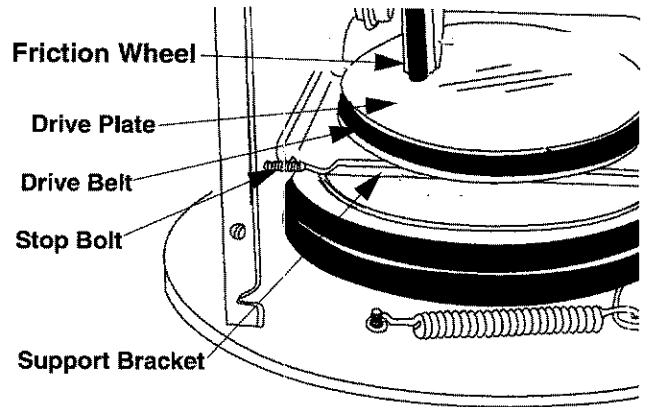

Figure 21
- Back out the stop bolt until the support bracket rests on the auger pulley. See Figure 21.
- Slip belt between friction wheel and friction wheel disc. See Figure 21. Remove and replace belt.
NOTE: The support bracket must rest on the stop bolt after the new belt has been assembled. See Figure 21.